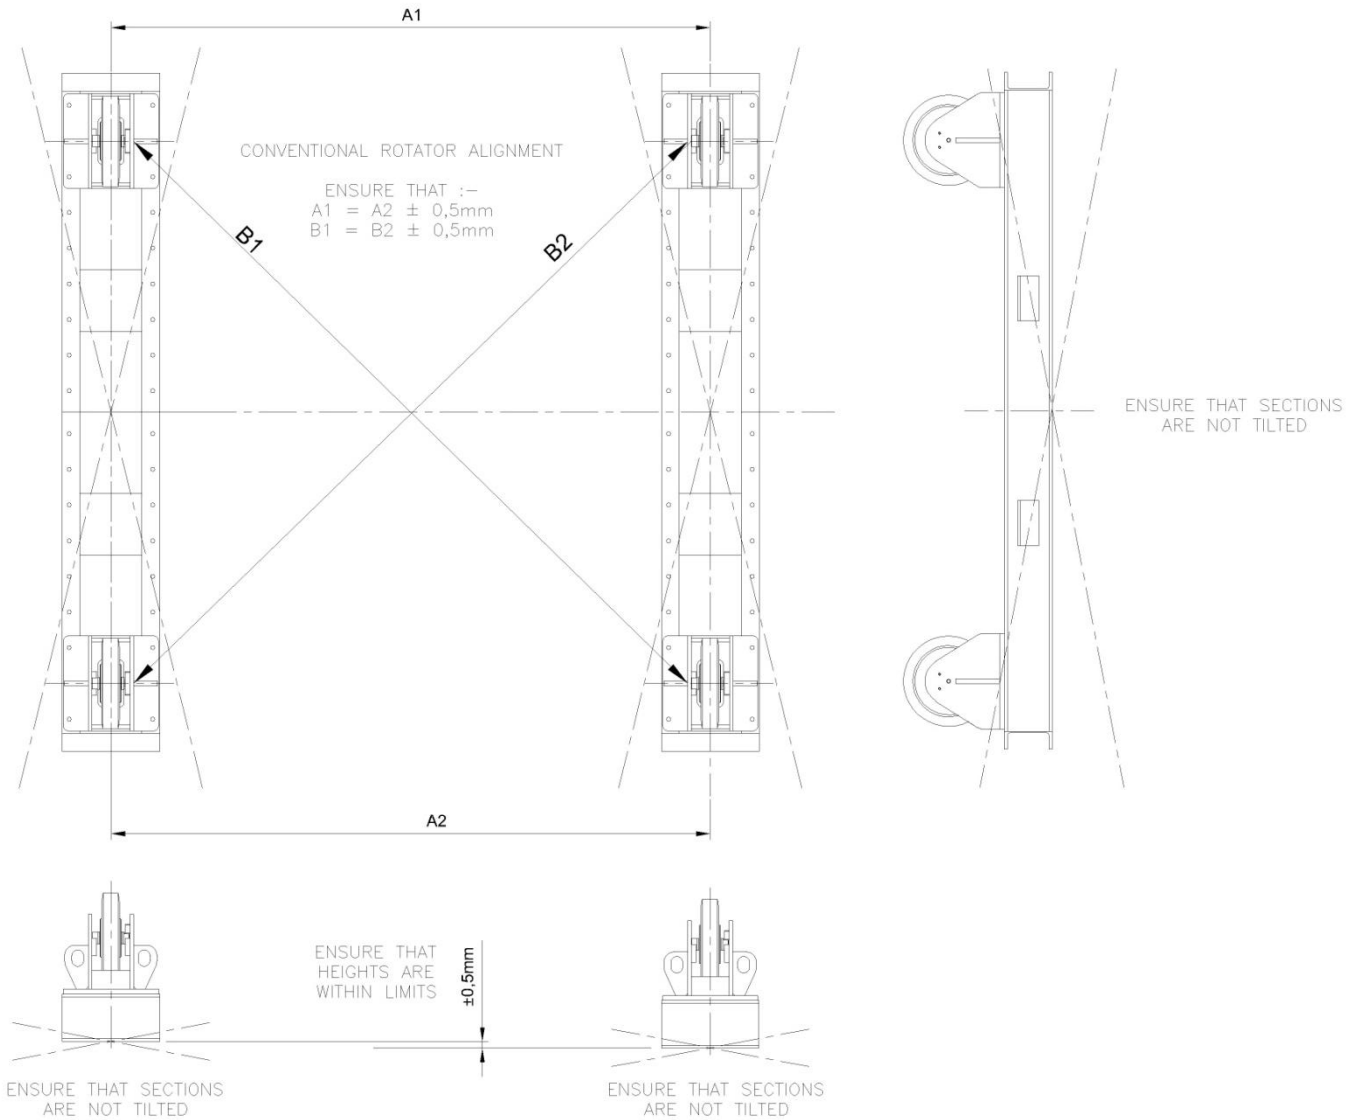

Figure 7 Diagram Showing Correct Alignment Procedure Between Drive and Idler Sections
7. If the drive and idler units are not aligned parallel to each other then the vessel can creep lengthways and even fall off the rotators. This can also cause wear and damage to the wheels of the rotator. See Figure 7 below for correct alignment details.